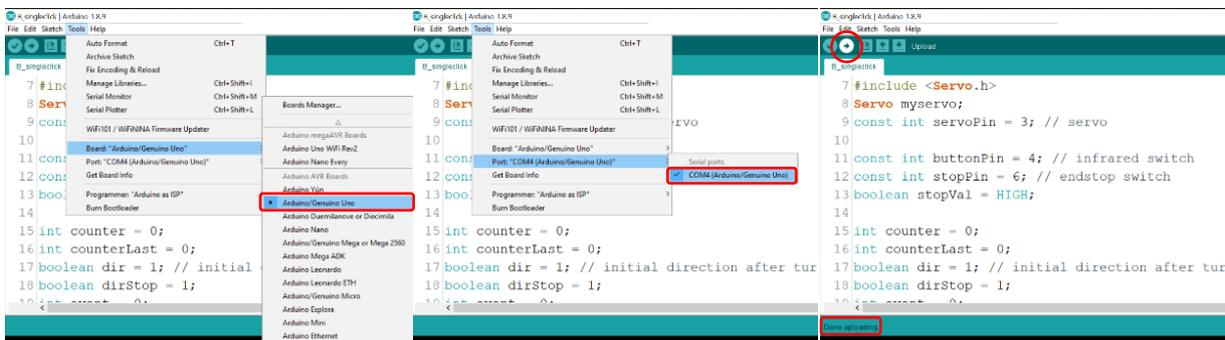

Figure 5: Programming the Arduino, left: Choosing "Board", middle: choosing "Port", right: uploading and uploading successful
4. Go to “Tools > Board:” and choose “Arduino/Genuino Uno” as shown in Figure 5 left.
5. Go to “Tools > Port:” and choose “COM” as shown in Figure 5 middle. If multiple COMs are available, unplug the Arduino, check which COM-choice disappeared, plug it in again and choose the reappeared one.
6. Click on the upload button on the top left as shown in Figure 5 right.